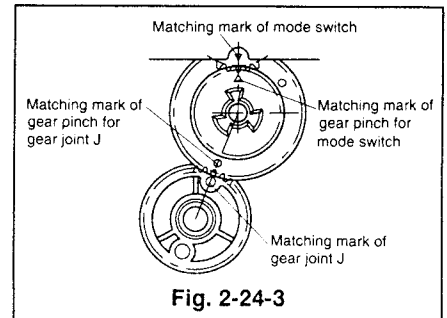

Fig. 2-24-3
- 3 Lift the mode switch, only high enough to install the gear pinch and place the gear pinch under the mode switch. Fix the mode switch to the shaft so that the matching marks of the gear pinch align with those of the gear joint J and the mode switch as shown in Fig. 2-24-3.